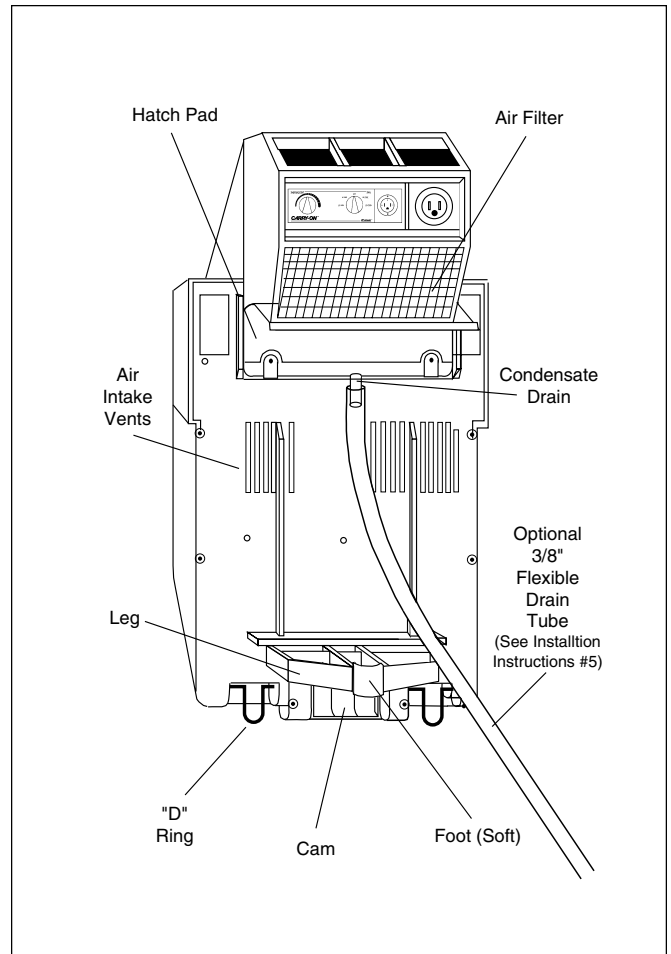

Figure 4. Bottom View of Carry-On
5. A condensate drain is located under the unit (See Figure 4) in a position such that water removed from the air is allowed to drain onto the deck. Should you desire to drain this water to another area, a 3/8" I.D. (See Figure 4) hose fits the condensate drain.
Remove filter. (See Figure 4.) Gently wash by hand in a solution of mild soap and warm fresh water. Allow water to drain and reinstall. Extra filters may be ordered from your dealer.